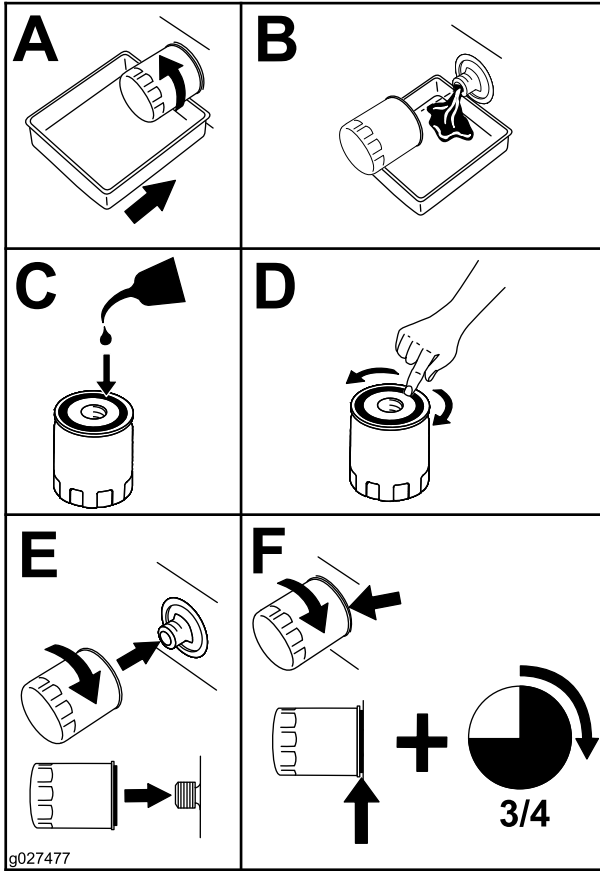

Figure 29
- Remove the engine-oil filter (Figure 29)